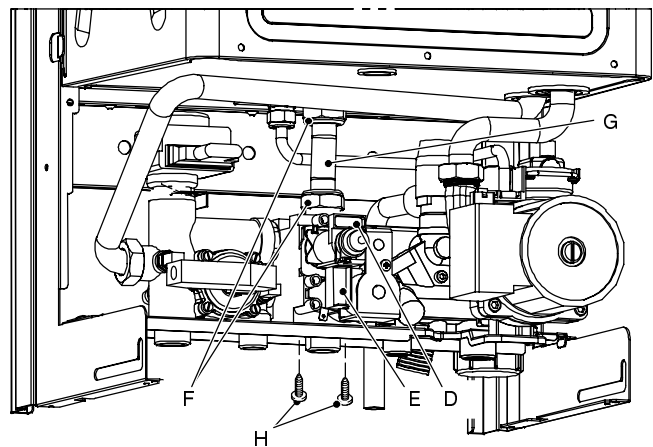

Fig. 56
- 2 Disconnect the connectors *D* (Fig. 56) from the modulating operator and measure the electrical resistance of the coil. Its electrical resistance value must be approx. 114 Ω*.
- 2 Disconnect the electrical connector *E* (Fig. 56).
- 2 Disconnect the connectors *D* and *E* (Fig. 56).